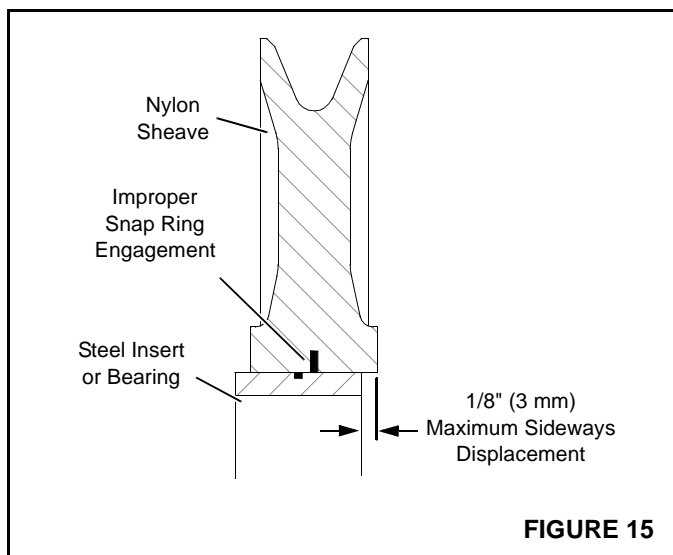

FIGURE 15
3. Inspect sheaves to verify they have not separated and “walked off” steel inserts or bearings as shown in Figure 15. Maximum sideways displacement is 1/8 in. (3 mm). Replace worn or damaged sheave assembly.